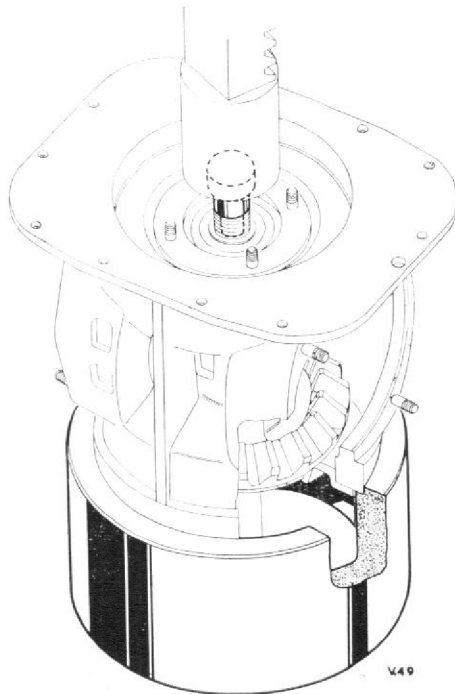

Fig. 3. Pot fixture T.74923 and adapter T.73032, used to remove horizontal drive from centre housing.
5. Place the centre housing, front face uppermost, on pot fixture T.74923 and using adapter T.73032, press out the horizontal gear assembly, Fig. 3.